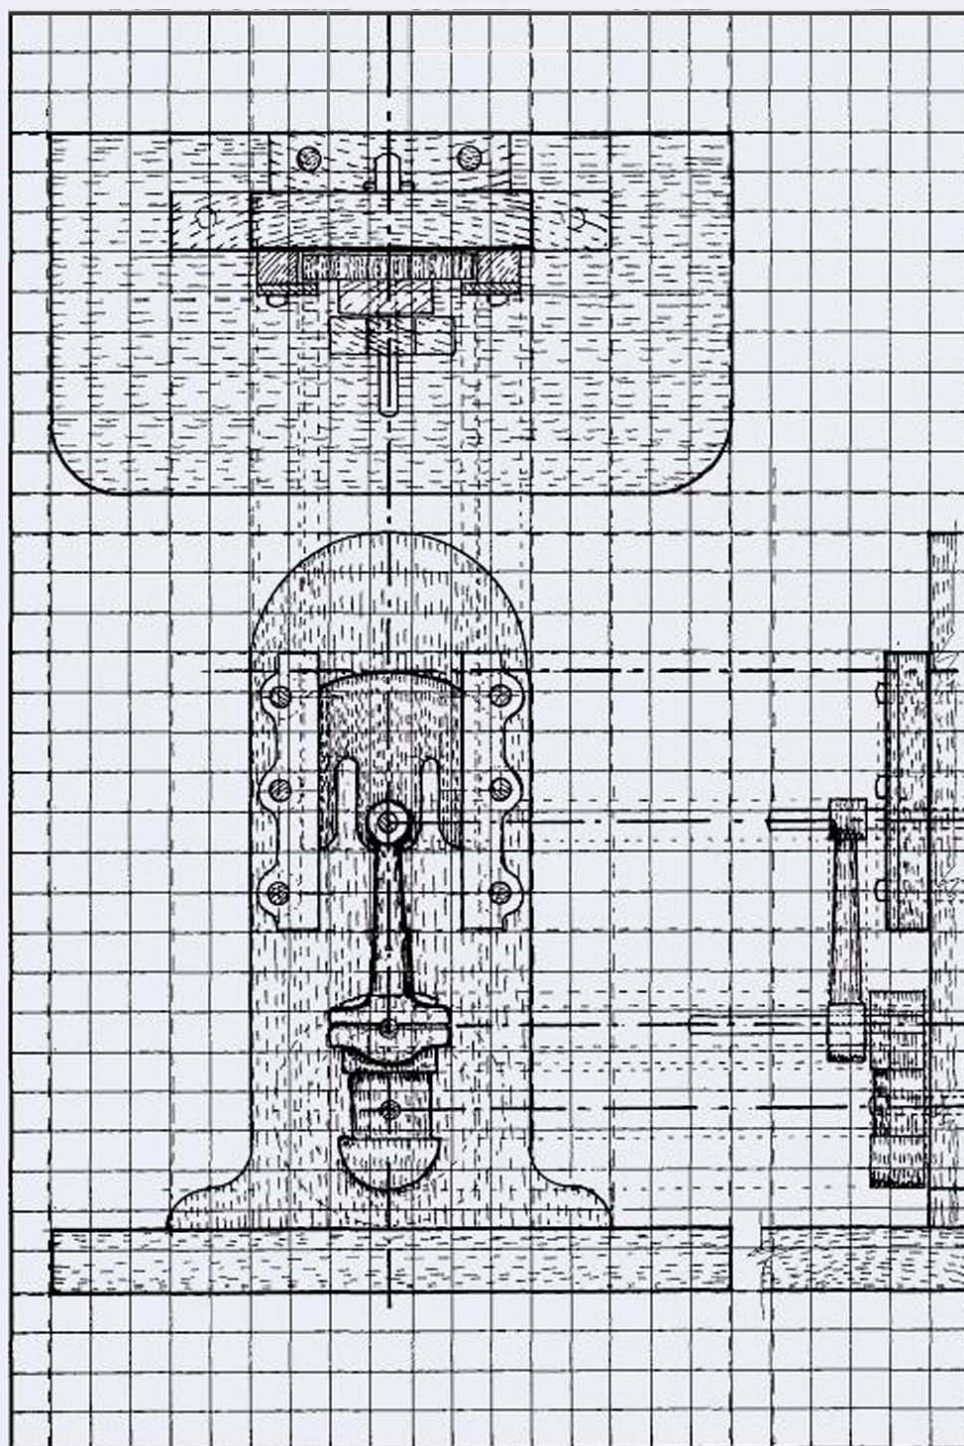
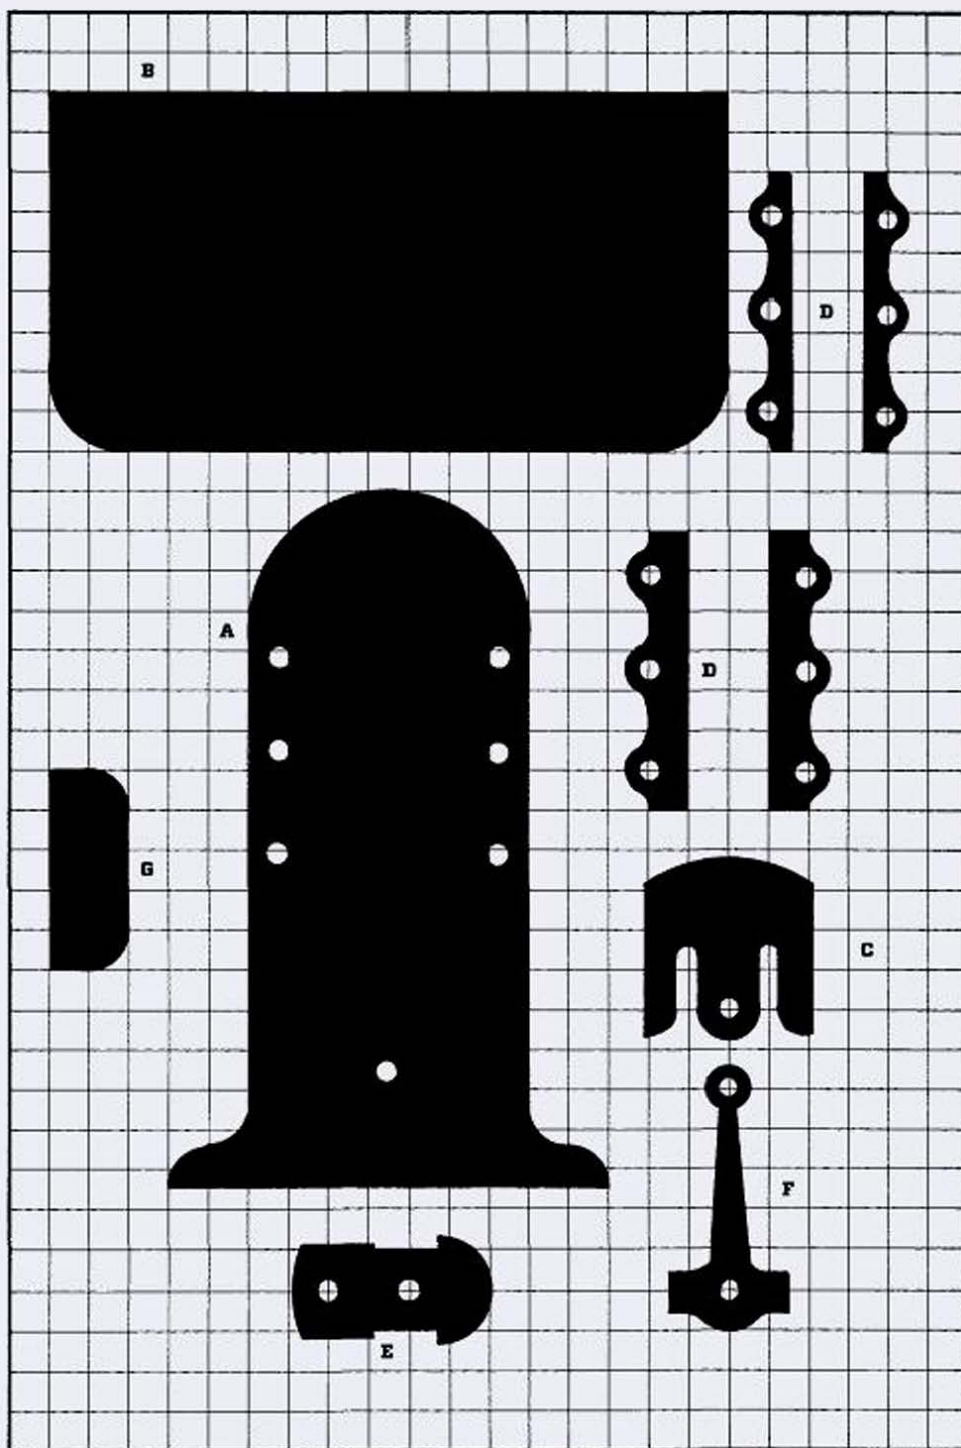

FIGURE 6-1
FIGURE 6-2
- 1 Having carefully studied the working drawing (Fig 6-1) and templates (Fig 6-2), take the two pieces of tulip and use the pencil, ruler, square and compasses to mark all the lines that make up the design.
- 1 Before you do anything else, have another good, long look at the working drawing (Fig 6-1) and the sequence of photographs, and see that the pair of slide rails are achieved by being first sliced into four layers—two for each rail—and then marked out, drilled, fretted to shape and reassembled. Note how the order of work—first drilling and pegging and then fretting—ensures that profiles and holes match up.
- 1** Have a look at the working drawing (Fig 6-1) and templates (Fig 6-2), and consider that the two components—the crank and the connecting rod—are first cut out on the scroll saw and then whittled.
- 5** Having once again studied the working drawing (Fig 6-1), templates (Fig 6-2) and photographs, take your small, sharp knife and start whittling the straight part of the rod to a roundish section. The best technique is to set in the circle lines of the ends with stopcuts—on both sides of the wood and at both ends—and then to carefully slice the blade into the stop-cut so the waste falls away. If you work with a careful thumb-braced paring cut, you won't have any problems with the knife slipping (Fig 6-8).